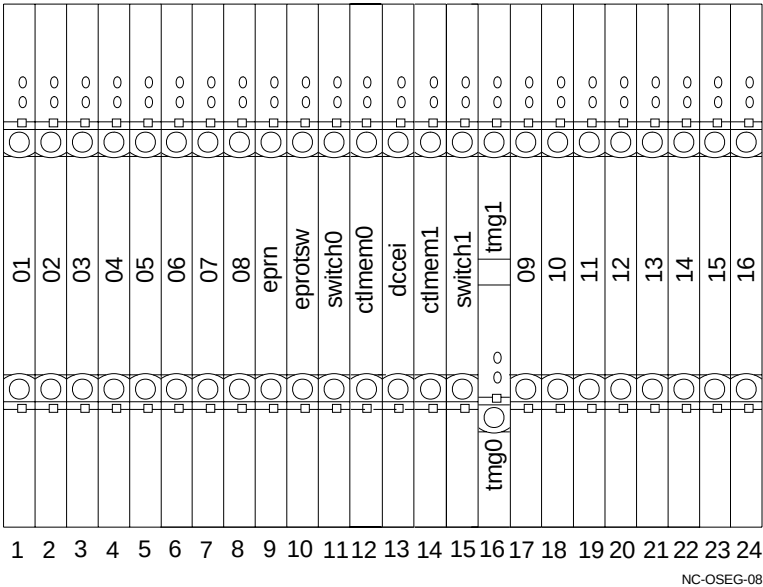

Figure A-1 Slot Names in the WaveStar TDM 2.5G (OC-48) Shelf
2.5G (OC-48) Shelf slot names Figure A-1 shows the slot names in the WaveStar TDM 2.5G (OC-48) Shelf. See Table A-8 for more information.